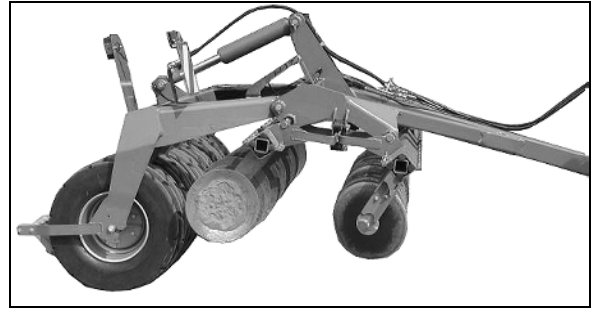

Fig. 26
- Raise both disc rows completely (Fig. 26).